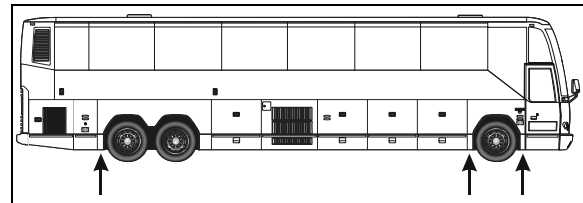

FIGURE 79: JACKING POINTS ON STRUCTURE 18480
The vehicle can be lifted by applying pressure under body jacking points or front and drive axle jacking points (from fig. 79 up to 85). When it is necessary to lift the vehicle, care should be taken to ensure that the pressure is applied only on the specified areas. Equipment for lifting the front of the vehicle must have a combined lifting capacity of at least 20,000 lb. (9 100 kg).
**Warning:** When it is necessary to raise the vehicle, care should be taken to ensure that pressure is applied only at the points indicated in figures 79, 80, 81 and 82.